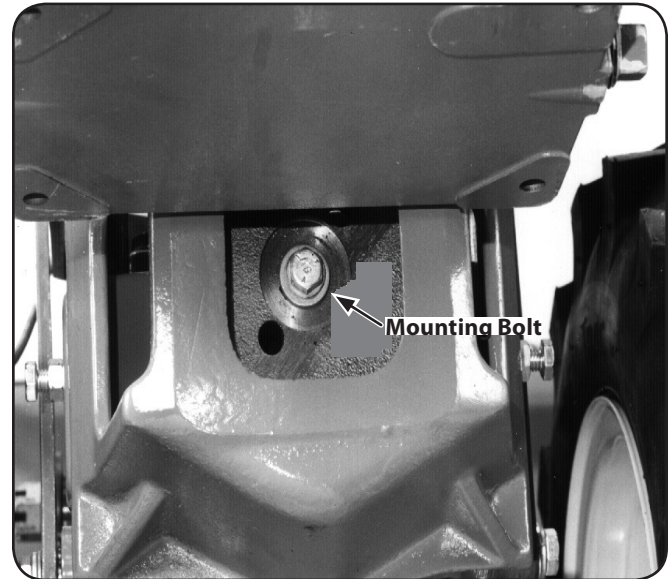

Figure 6-1
- If the washer behind the bolt head is loose, the bolt needs tightening. To do this, first insert a punch or thick screwdriver into the hole next to the bolt and wedge the tool against the side of the motor mount casting. This immobilizes the pulley while you tighten the bolt. See Figure 6-1.